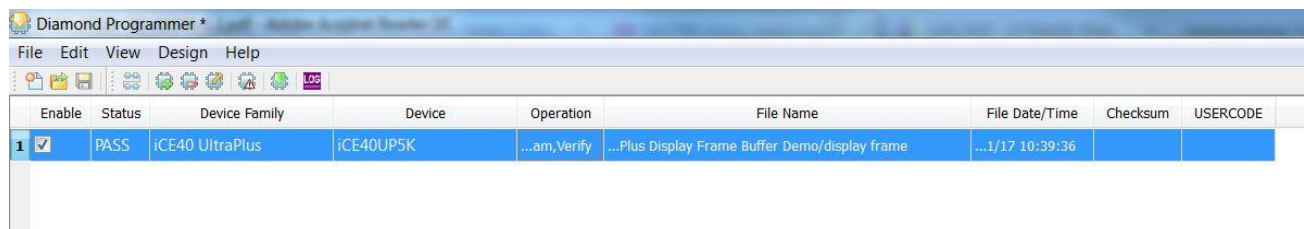

Figure 3.2. Diamond Programmer Main Interface
6. Click **OK**. This opens the Diamond Programmer main interface as shown in Figure 3.2.